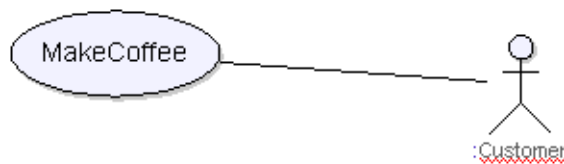

Figure 3: Use case and actor
The class `Customer` will not be bound at this stage in the design. This can be observed in two ways. First the type name is underlined with a red wave line (See Figure 3 on page 9) indicating a name binding error, secondly there will be some error messages in the Output window (Autocheck tab).
- Click on the Use case symbol and place it in the diagram. Name the use case **MakeCoffee**. Select the use case and create an association line to the actor. To do this drag the leftmost (**Association line**) of the three line handles from the use case symbol to the actor. See Figure 3 on page 9.